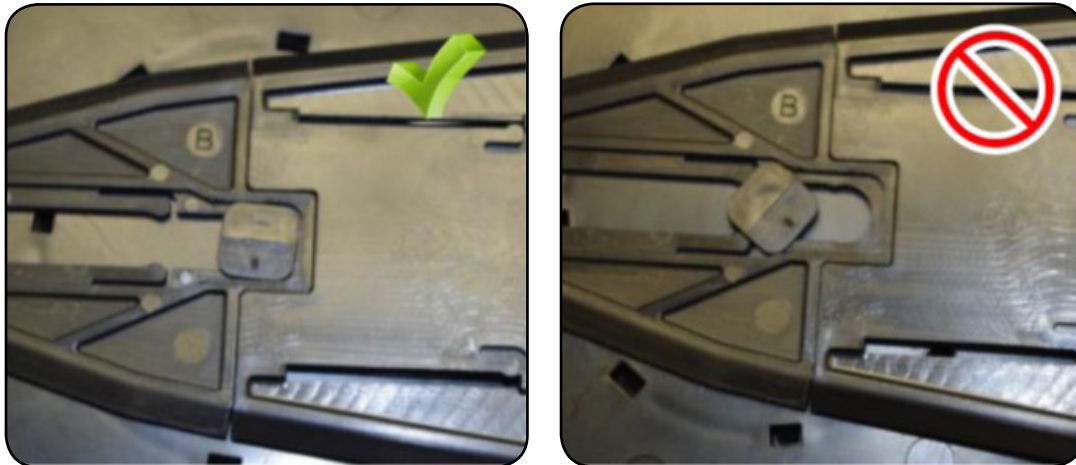

Figure 8
7. Reinsert the drop wheel into the mounting bracket. Make sure that the slide is properly aligned when reinserting the drop wheel (Figure 8).